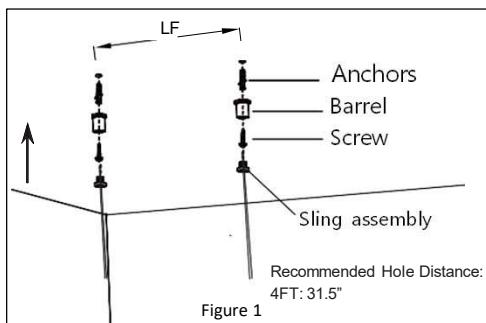

Figure 1
2. Locate the suspension mounting kit. Unscrew the Gripper from the Barrel. *See Figure 1.*